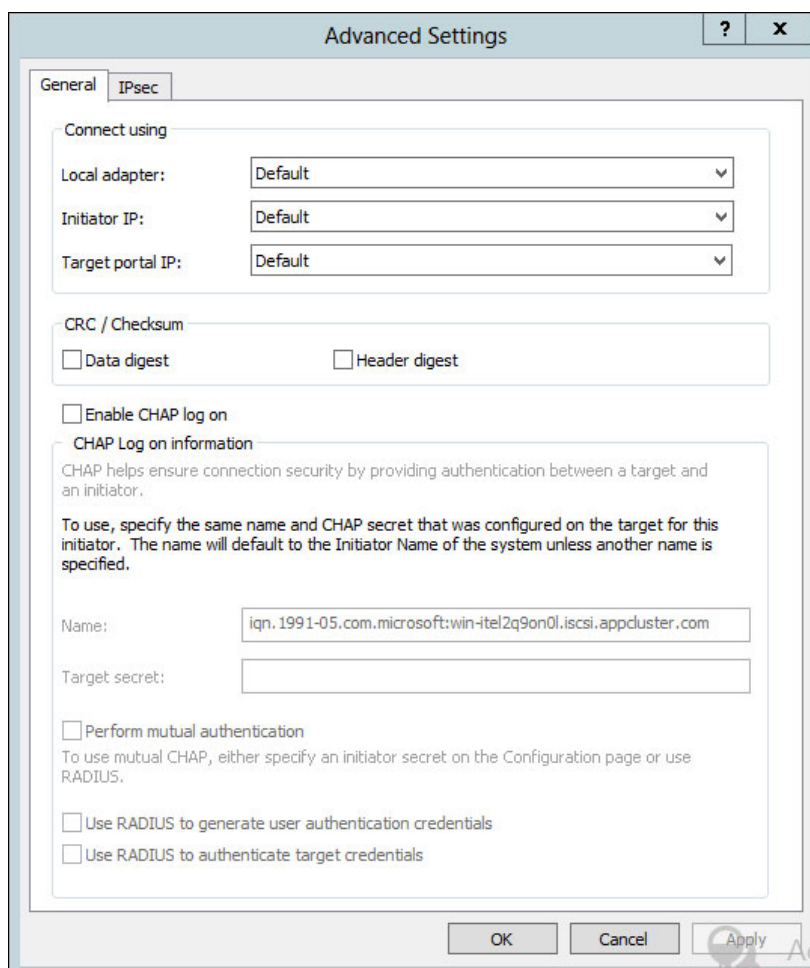

Figure 7-26 Advanced connection settings
- a. A new window opens, as shown in Figure 7-26. You can select the appropriate check boxes to configure digests and CHAP authentication.